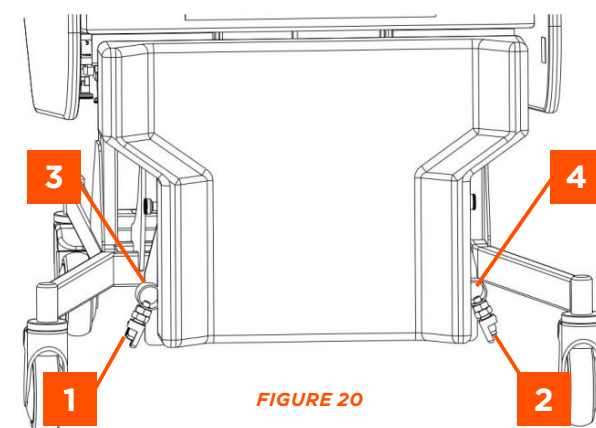
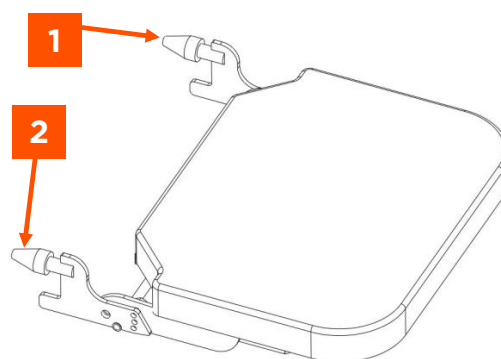

FIGURE 20
FIGURE 23
1. Ensure that the plungers that secure the footplate (Fig 20, Items 1&2) are in the closed position (Fig 22).
2. Take the footplate (Fig 23) and insert the two tapered spigots (Fig 23, Items 1&2) into the two sockets either side of the footplate height adjustment frame (Fig 20, Items 3&4). Push the footplate into the tubes until the plungers latch with an audible click.
1. Locate the plungers that secure the footplate either side of the legrest, at the bottom of the footplate height adjustment frame (Fig 20, Items 1&2).